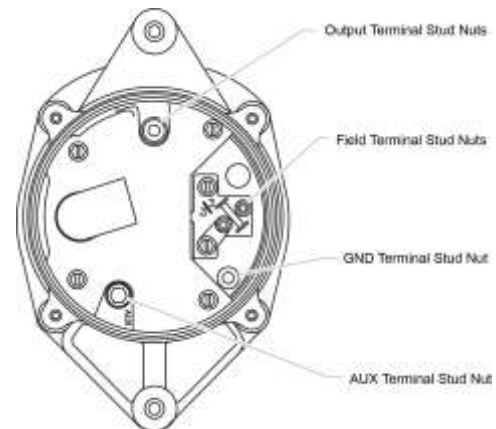

Figure 6
- (7) Connect the aircraft wiring to the alternator as follows for each terminal location shown in Figure 6: